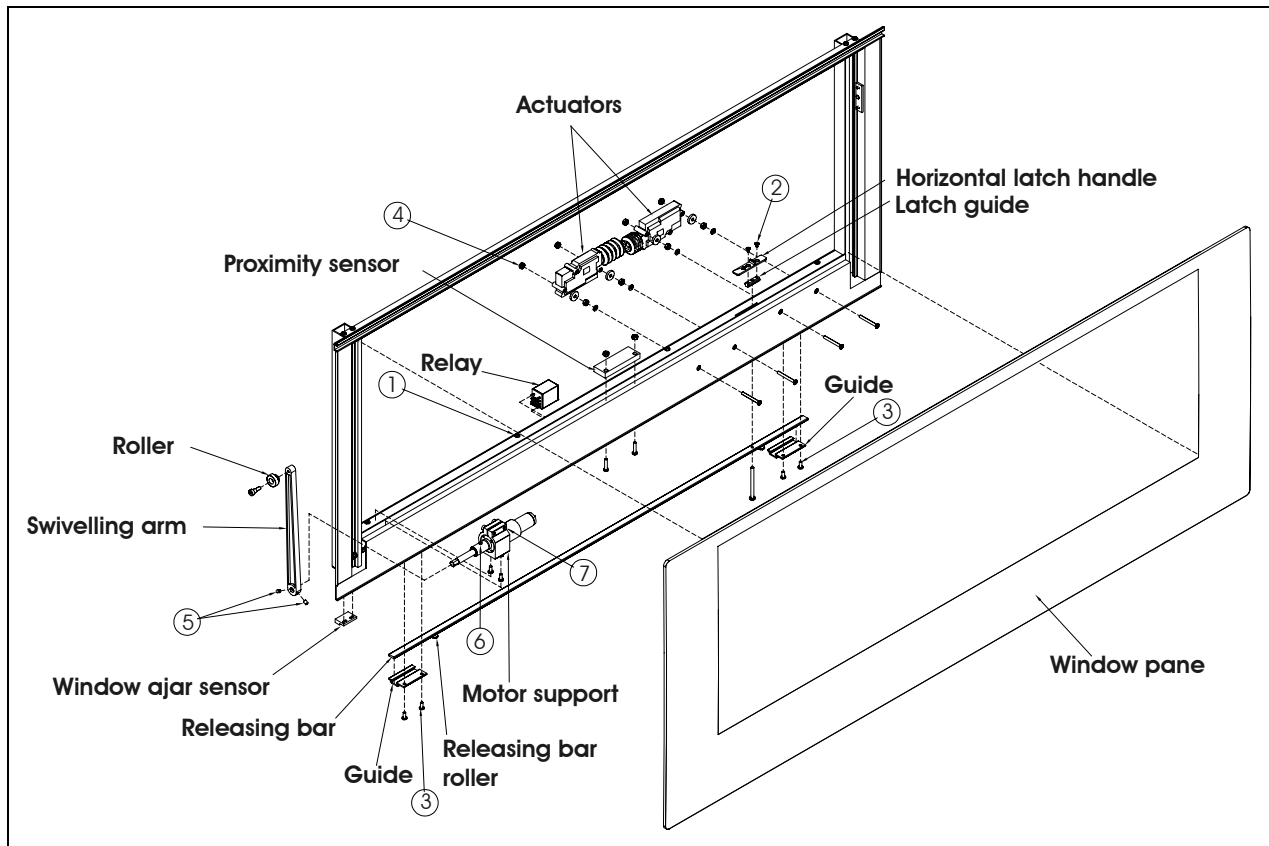

FIGURE 40: ELECTRIC AWNING WINDOW EXPLODED VIEW (SASH)
4. Loosen the set screws #5 (figure 40)(rotate the arm to get to the second set screw) and disengage the swiveling arm from the motor shaft extension.